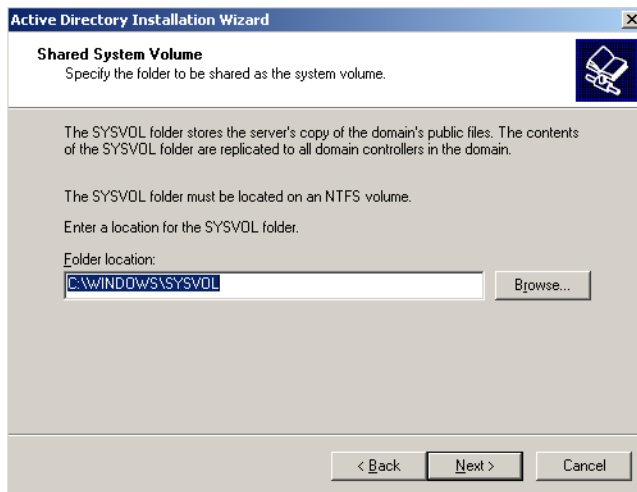

Figure D-13 Shared system volume dialog
15. Use the default folder location, C:\WINDOWS\SYSVOL as shown in figure D-13, for the Shared System Volume. Click the **Next** button to proceed.